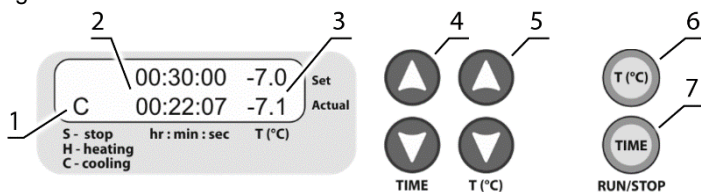
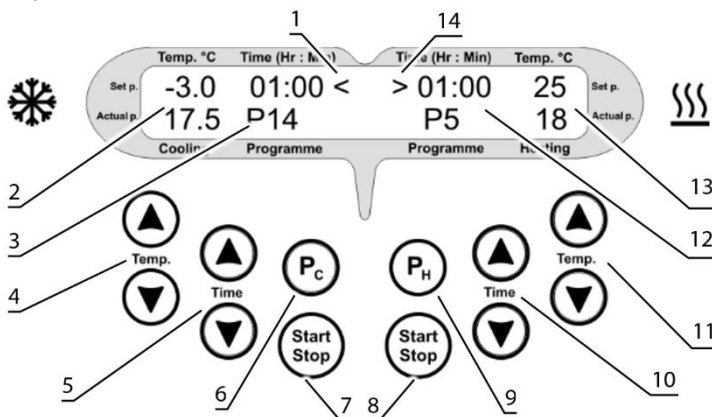
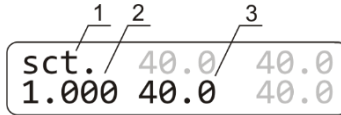

Figure 1. Control panel of **CH-100**
Figure 2. Control panel of CH 3-150
Figure 3. Display in calibration mode: 1. Calibration mode indicator; 2. Calibration coefficient; 3. Temperature with current coefficient
5.2.3 **Temperature setting**. Use the \blacktriangle and \blacktriangledown **T (°C)** keys (fig. 1/5) to set the required temperature. Values are shown on display (upper line, fig. 1/3). Temperature increment is 0.1°C . Pressing the key down for more than 2 s makes the values change quicker.
5.2.4 Press the **RUN/STOP T (°C)** key (fig. 1/8) to start heating or cooling. The corresponding operation status is indicated on the display, **H** for heating, **C** for cooling (fig. 1/1). Current temperature value is shown on display (lower line, fig. 1/3).
5.2.7 After thermal stabilisation of the unit (i.e., after set and current temperatures equalize, fig. 1/3), open the block lid, place samples and close the lid.
5.2.9 Use the \blacktriangle and \blacktriangledown **TIME** keys (fig. 1/4) to set the required time period. Values are shown on display (upper line, fig. 1/2). Time increment is 1 minute. Pressing the key down for more than 2 s makes the values change quicker.
5.2.10 Press the **RUN/STOP TIME** key (fig. 1/7) once to start the timer. The elapsed time is indicated in the lower line of the display (fig.1/2). When the set time is reached, the timer stops, and a sound signal is heard.
Caution! After the set time elapses and the timer stops, the device does not stop the heating or cooling process. Press the **RUN/STOP T (°C)** key (fig. 1/7) manually to stop the heating or cooling.
5.3.4 **Selecting a program.** Press the **P_C** key (fig. 2/6) to select cooling programs or the **P_H** key (fig. 2/9) to select heating programs. Each press selects next program in cycle.
5.3.6 Cooling programs. Press and hold the **P_C** key for 4 seconds until < symbol appears on the display (fig. 2/1).
Use the **▲** and **▼ Temp.** keys (fig. 2/4) to set the required temperature. Cooling increment is 0.1°C. Set values are shown on display on the left in the upper line, **Set p.** (fig. 2/2).
Use the **▲** and **▼ Time** keys (fig. 2/5) to set the required work time interval in hours and minutes. Time increment is 1 minute. Set values are shown on display on the left in the upper line, **Set p.** (fig. 2/3).
5.3.7 Heating programs. Press and hold the **P_H** key for 4 seconds until > symbol appears on the display (fig. 2/14).
Use the **▲** and **▼ Temp.** keys (fig. 2/11) to set the required temperature. Heating increment is 1°C. Set values are shown on display on the right in the upper line, **Set p.** (fig. 2/13).
Use the **▲** and **▼ Time** keys (fig. 2/10) to set the required work time interval in hours and minutes. Time increment is 1 minute. Set values are shown on display on the right in the upper line, **Set p.** (fig. 2/12)
5.3.10 Press the **Start Stop** key (fig. 2/7 or 2/8) to start the cooling or heating timer.
- 6.2 To change the calibration coefficient, hold the **RUN/STOP TIME** key (fig. 1/7, **CH-100**) or **Start Stop** (fig. 2/7, **CH 3-150**) key pressed for more than 8 s to activate calibration mode, as shown on figure 3).
Values marked in grey on figures 3 and 4 are not used in calibration and are meant for service engineers.
- 6.3 **Restoring factory settings.** Set 1.000 value using the **▲** and **▼ Temp** or **T (°C)** keys as shown on fig. 3/2 to restore the factory settings. Press the **RUN/STOP TIME** or **Start Stop** key once to save the changes and exit the calibration mode.